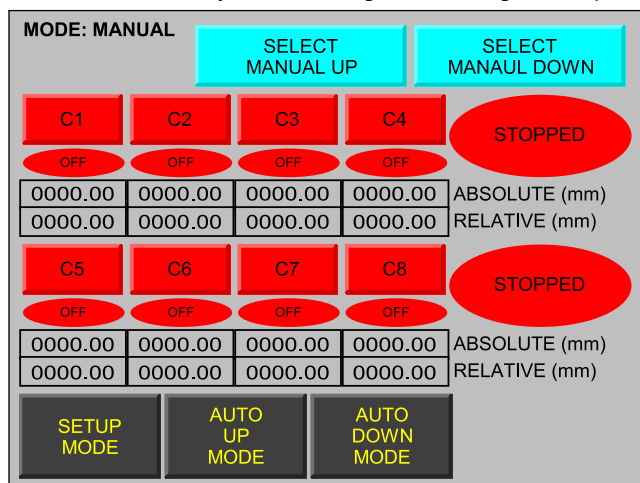

Figure 8
8. Check the system for functionality. Go to the manual mode screen by touching "**MANUAL MODE**". Press either *Manual Up* or *Manual Down* with the lift system assembled but the pump turned off. (See Fig. 8)
3. Select **MANUAL UP** (Fig. 8)